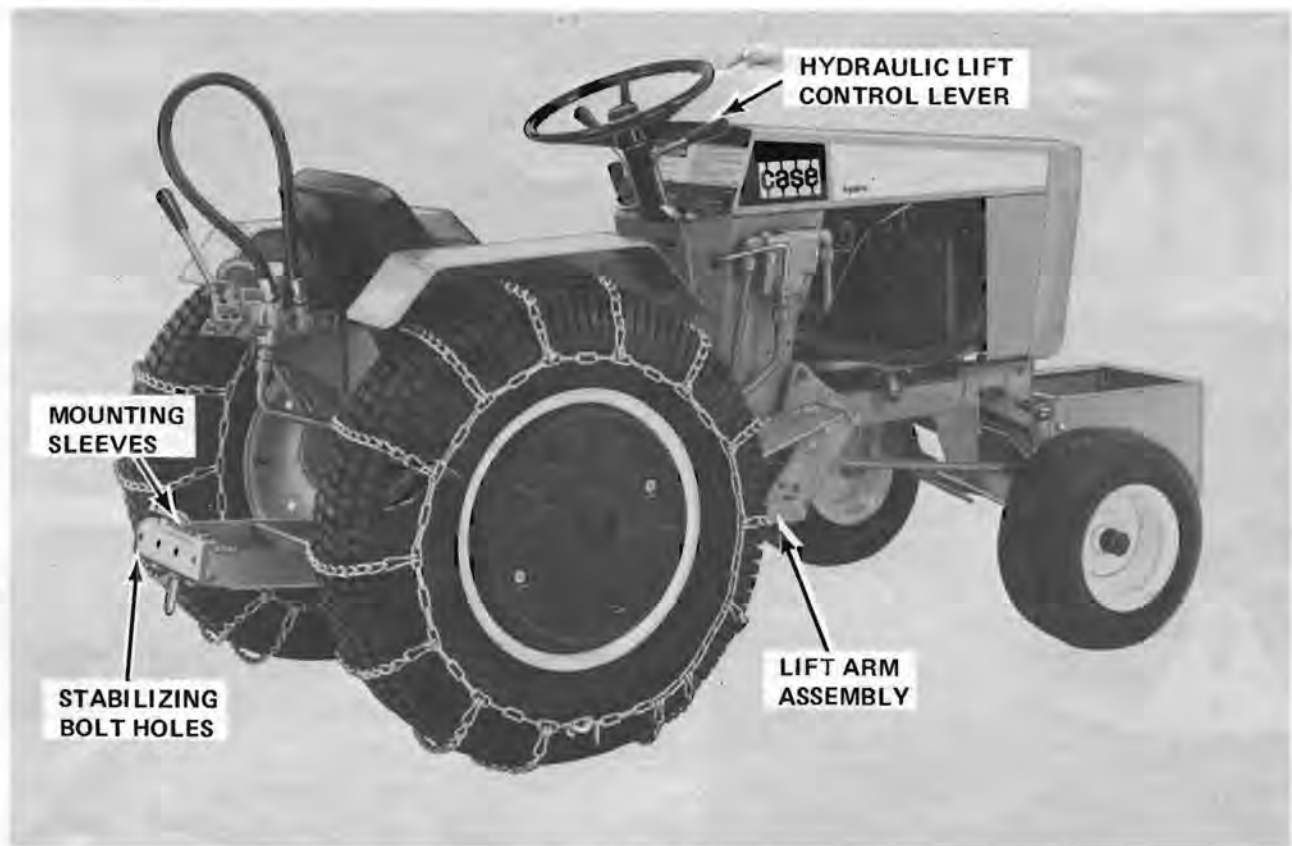

FIGURE 1
1. **HYDRAULIC LIFT CONTROL LEVER** - See Figure 1. The sleeve hitch is raised and lowered with the hydraulic lift control lever. Since most rear mounted implements are heavy, the sleeve hitch should only be used on tractors equipped with hydraulic lift.
Pull back on the lift control lever, Figure 1, to raise the hitch. To lower the hitch and apply "down pressure," push the lever ahead to the first stop position. The control lever has a centering spring which returns the lever to neutral from either the "raise" or the "lower" and "down pressure" positions.
2. **MOUNTING SLEEVES** - See Figure 1. There are three mounting sleeves on the hitch to permit centering or offsetting implements. When mounting a plow be careful to select a sleeve which will permit the share to cut cleanly to the edge of the furrow or to the inside of the right rear wheel.
3. **IMPLEMENT STABILIZING BOLTS** - See Figure 1. Four implement stabilizing bolts are furnished with the hitch to eliminate the lateral swing of mounted attachments if desired. A plow should not be stabilized.